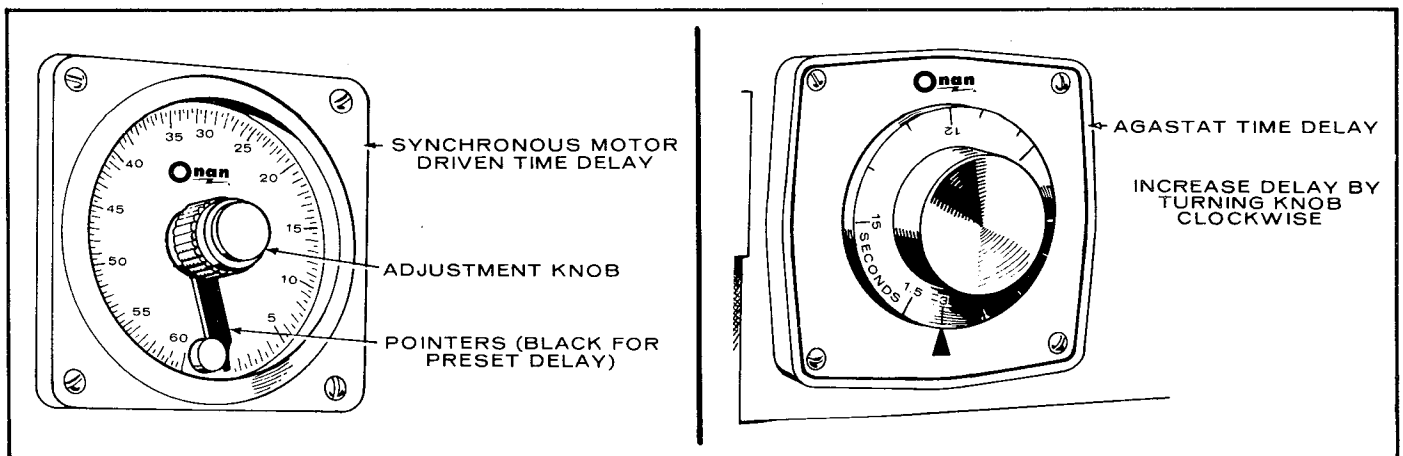

FIGURE 2-10. ADJUSTABLE TIME DELAYS
2. The Agastat delay relay shown in Figure 2-10 is adjustable. To adjust the delay time, turn its knob clockwise to increase delay, counterclockwise to decrease the delay.